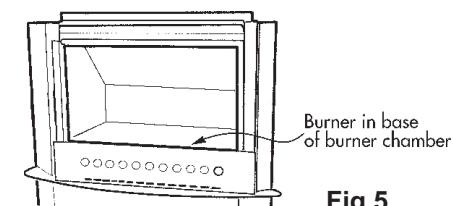

Fig 5.
- Switch the stop button back to "Low Flame" position as indicated in Fig 5(a), retain spanner in position and using a screwdriver as per Fig 5(b) adjust the central screw control to a pressure of:
11. The burner is contained within the burner chamber. Refer Fig 5.